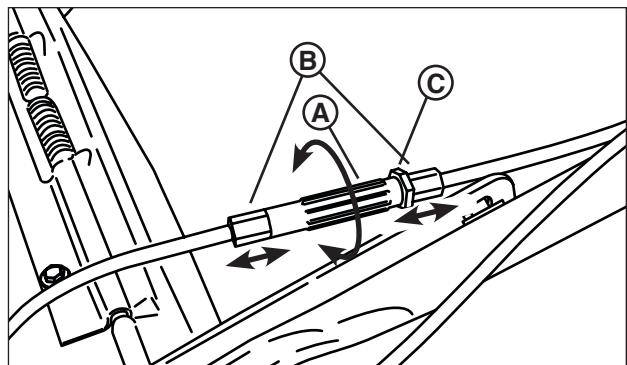

Figure 19: Adjusting the drive cable
- If the transmission does not engage, increase drive cable tension by loosening the jam nut (**C**, Figure 19) and rotating the turnbuckle (**A**) counter-clockwise one-half turn to move the ferrules (**B**) out from the turnbuckle. Tighten the jam nut against the turnbuckle. Check and repeat as needed.